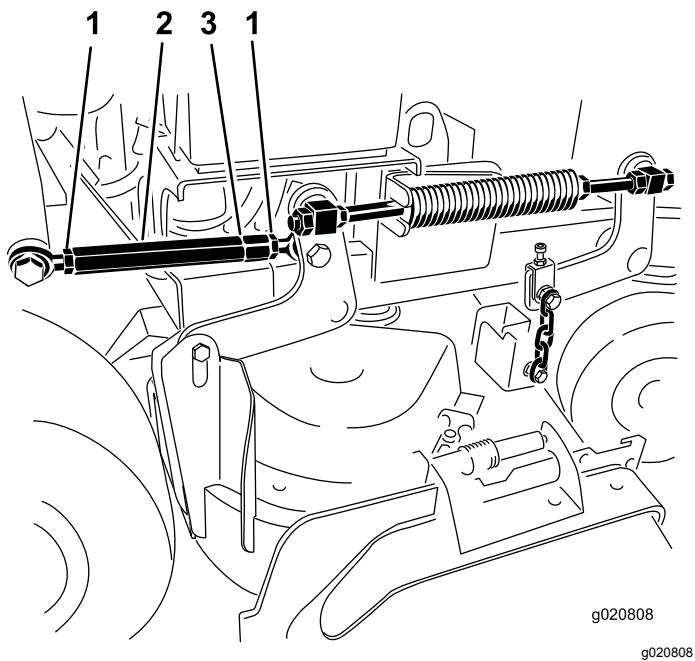

Figure 85
4. Loosen the jam nuts at both ends of the turnbuckle (Figure 85).
- Note:** The end of the turnbuckle with the groove has left threads (Figure 85).